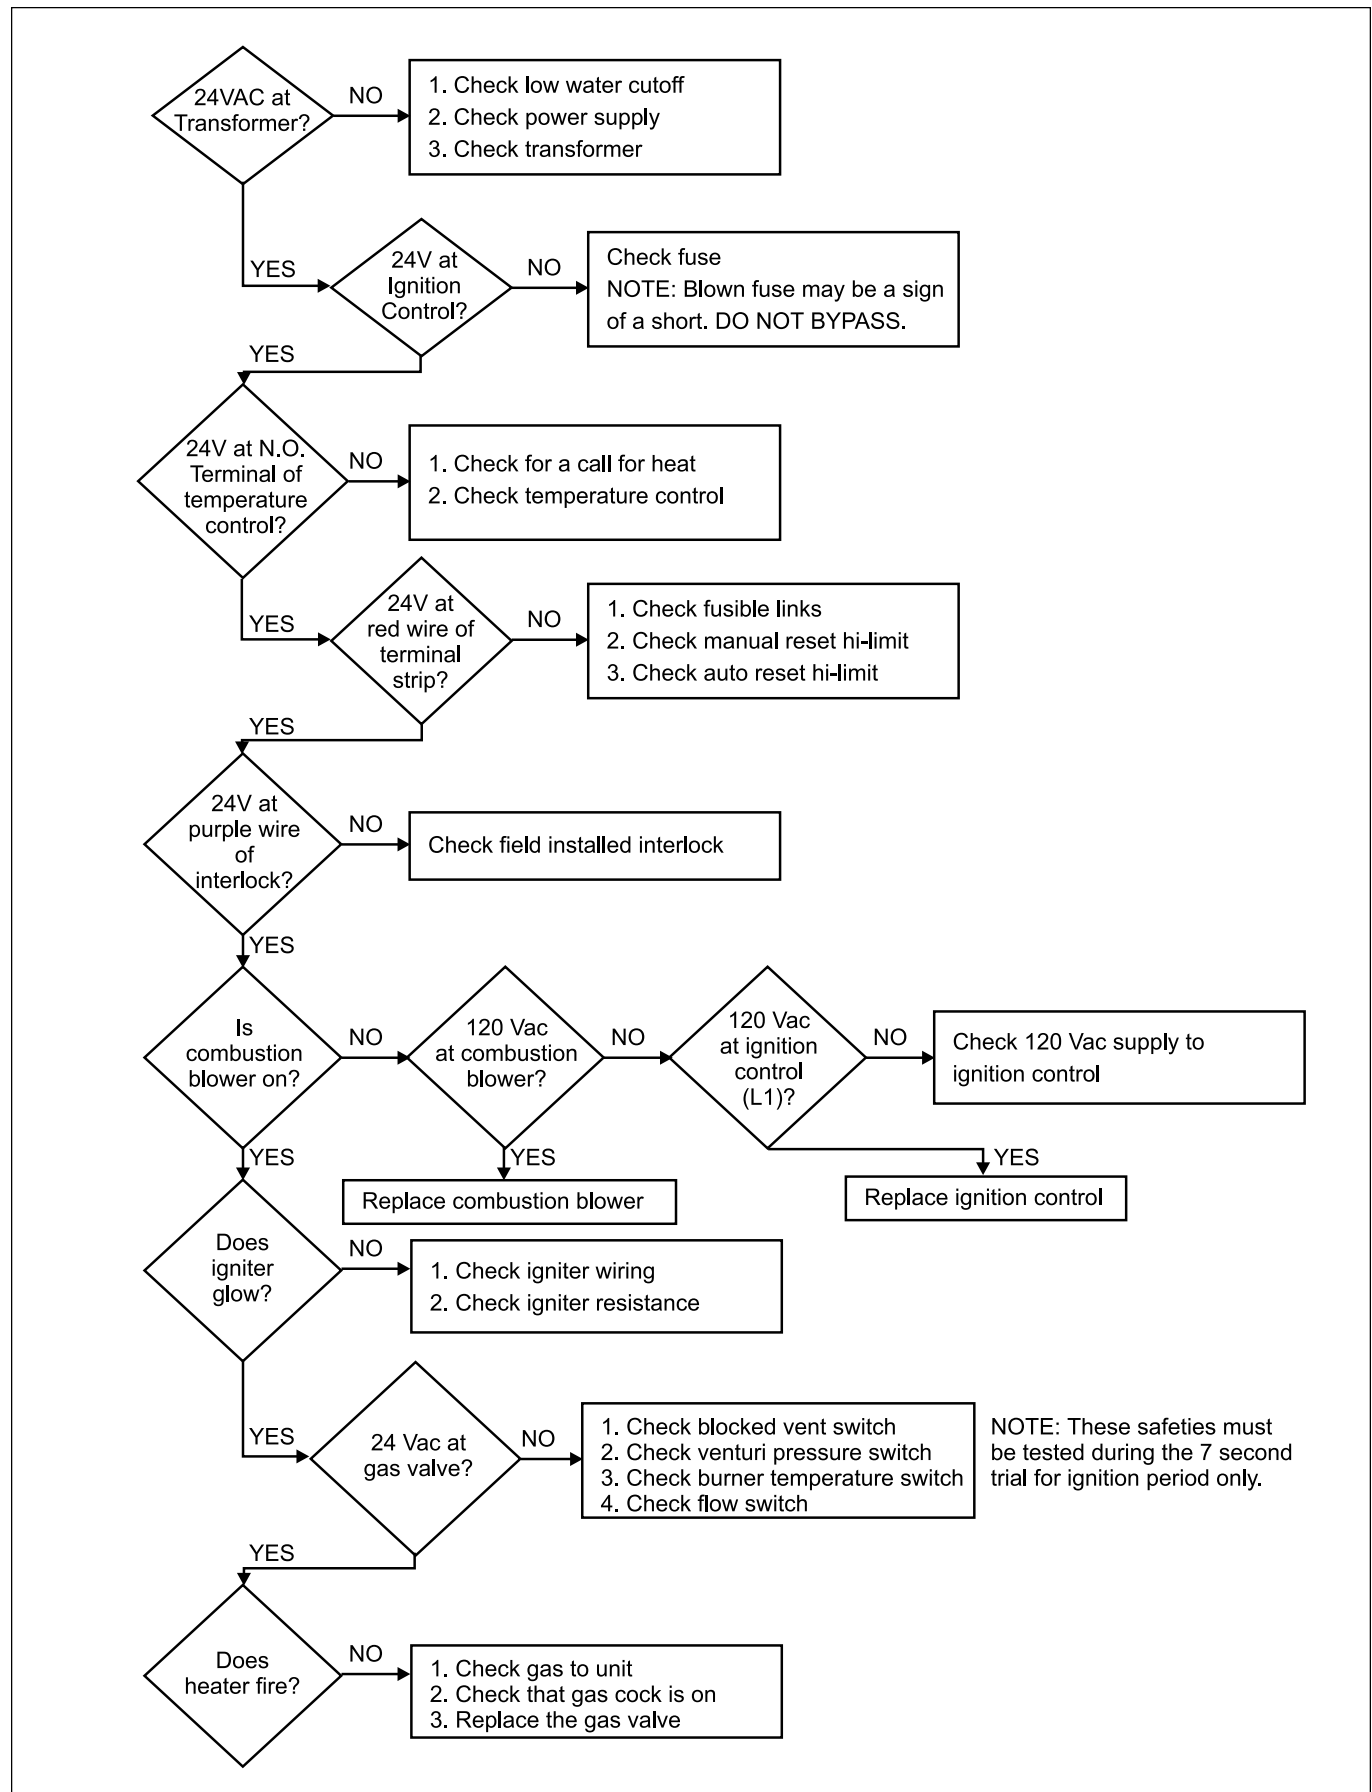

Figure 19. Troubleshooting Chart.
Some electrical components are wired in parallel, so it is necessary to troubleshoot in the order that they appear on the wiring diagram or the troubleshooting flow chart (see Figure 19).
- 4. Use the troubleshooting flow chart (Figure 19) to determine what components and wiring should be tested first.